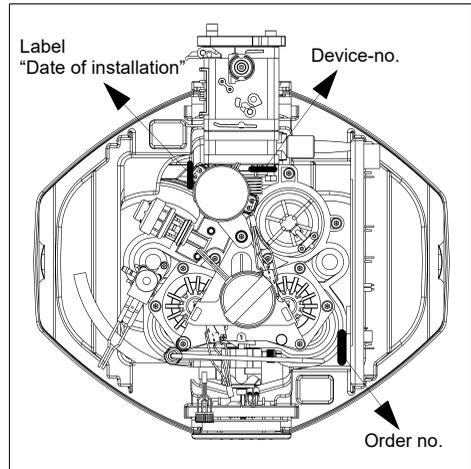

Fig. 12: Device and order no. plus Label “Date of installation”
- Enter the date of installation on the label (see fig. 12).